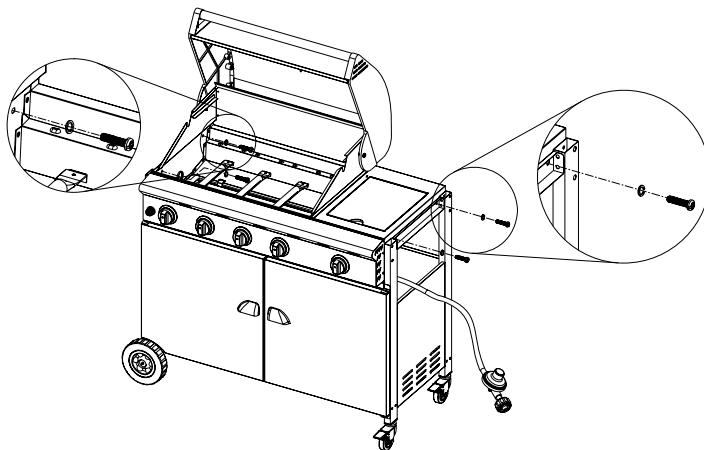

Figure 11
3. Attach the grill head to right side panel using (4) $\frac{1}{4} \times \frac{3}{5}$ " screws with (4) $\frac{1}{4}$ " washers. (Fig.11)